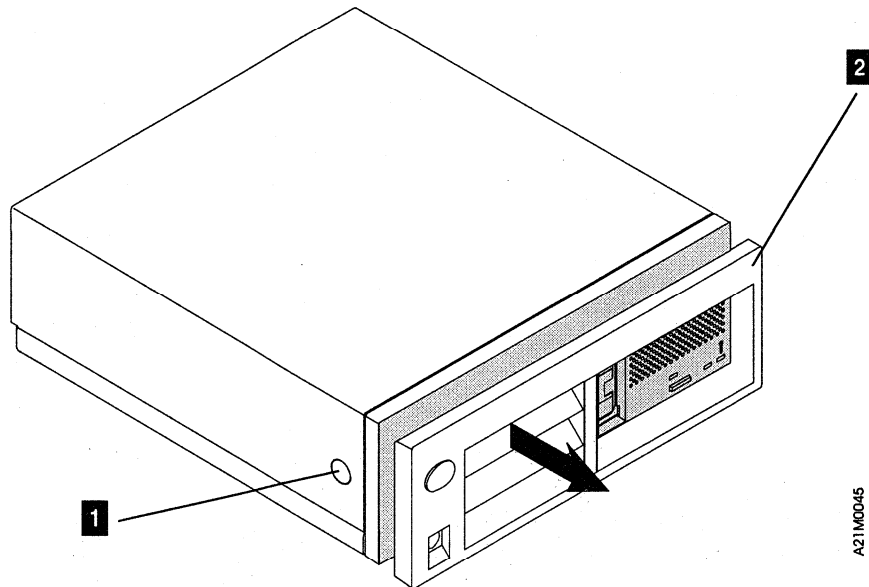

Figure 21. Removing the Front Cover from Model B00
- a. See Figure 21. Remove front cover of the unit **2** by depressing the tabs **1** on each side of the enclosure and carefully pulling the front cover away from the subsystem.
**Note:** There is a corresponding tab on the opposite side of the chassis to the one shown as **1** in Figure 21.